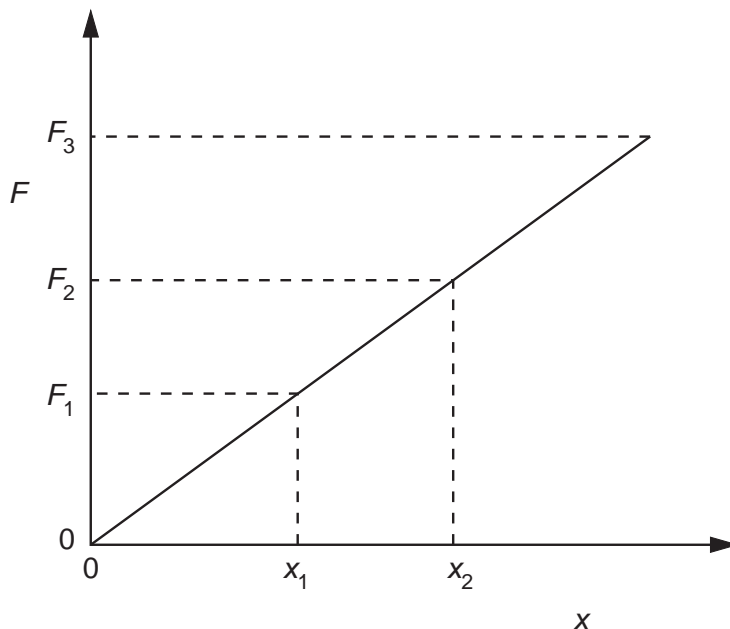

Fig. 5.1
- 2 Fig. 5.1 shows the variation with force F of the extension x of a spring as the force is increased to F_3 and then decreased to zero.